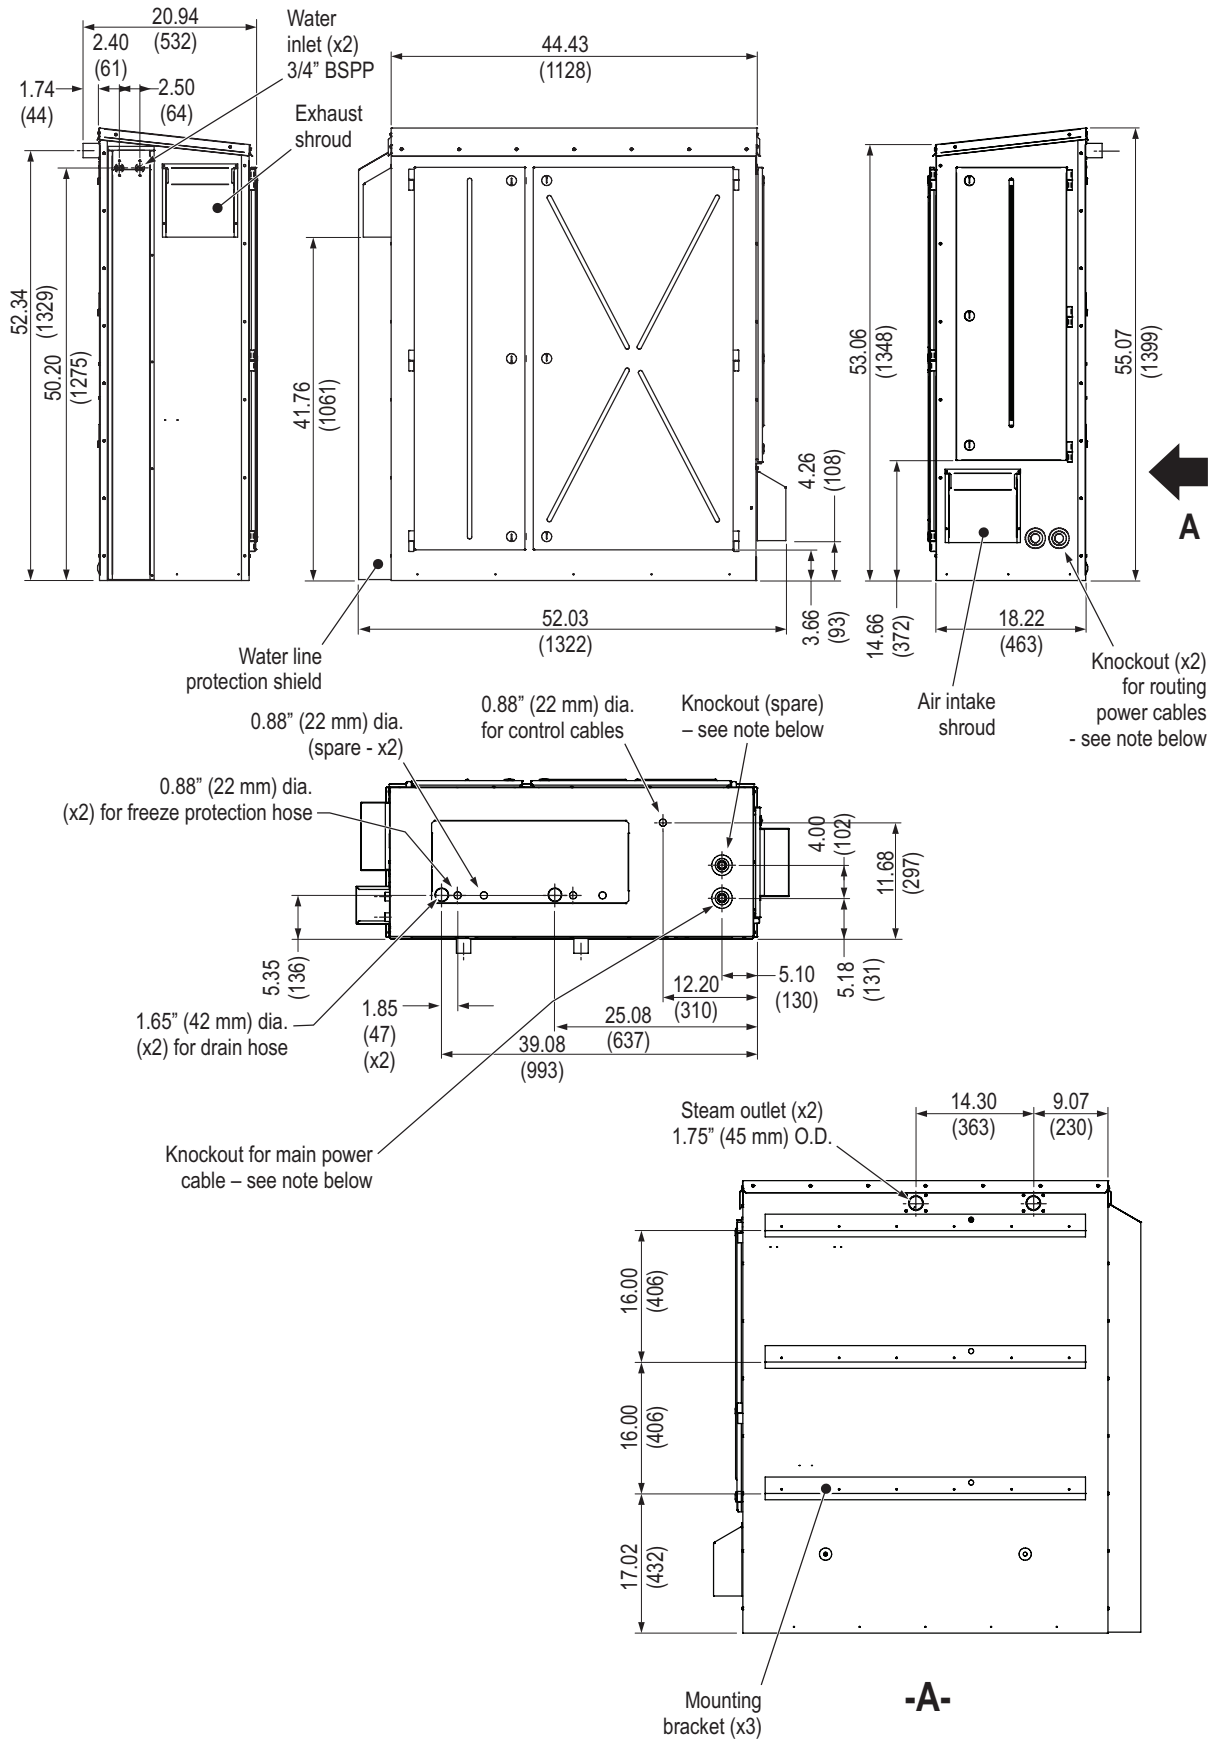

Figure 26: Nortec EL/RS Outdoor Steam Humidifier, Large Housing*
* Nortec EL-OC 050-100 and Nortec RS-OC 010-090. For Nortec RS-OC 090 with two cylinders, refer to Figure 26 on page 62.